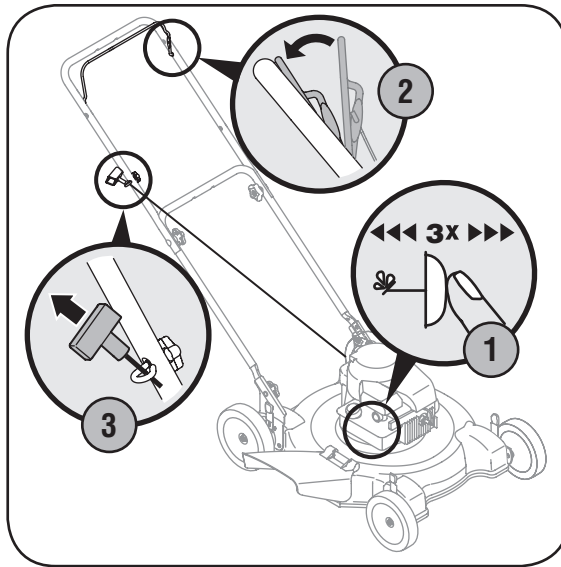

Figure 4-2
1. Push primer three times. Wait about two seconds between each push. See Figure 4-2. In temperature around 55°F or below, prime five times. Do not prime to restart a warm engine.
3. Holding these two handles together firmly, grasp recoil starter handle and pull rope out with a rapid, continuous, full arm stroke. See Figure 4-2. Keeping a firm grip on the starter handle, let the rope rewind slowly. Repeat until engine cranks. Let the rope rewind each time slowly.